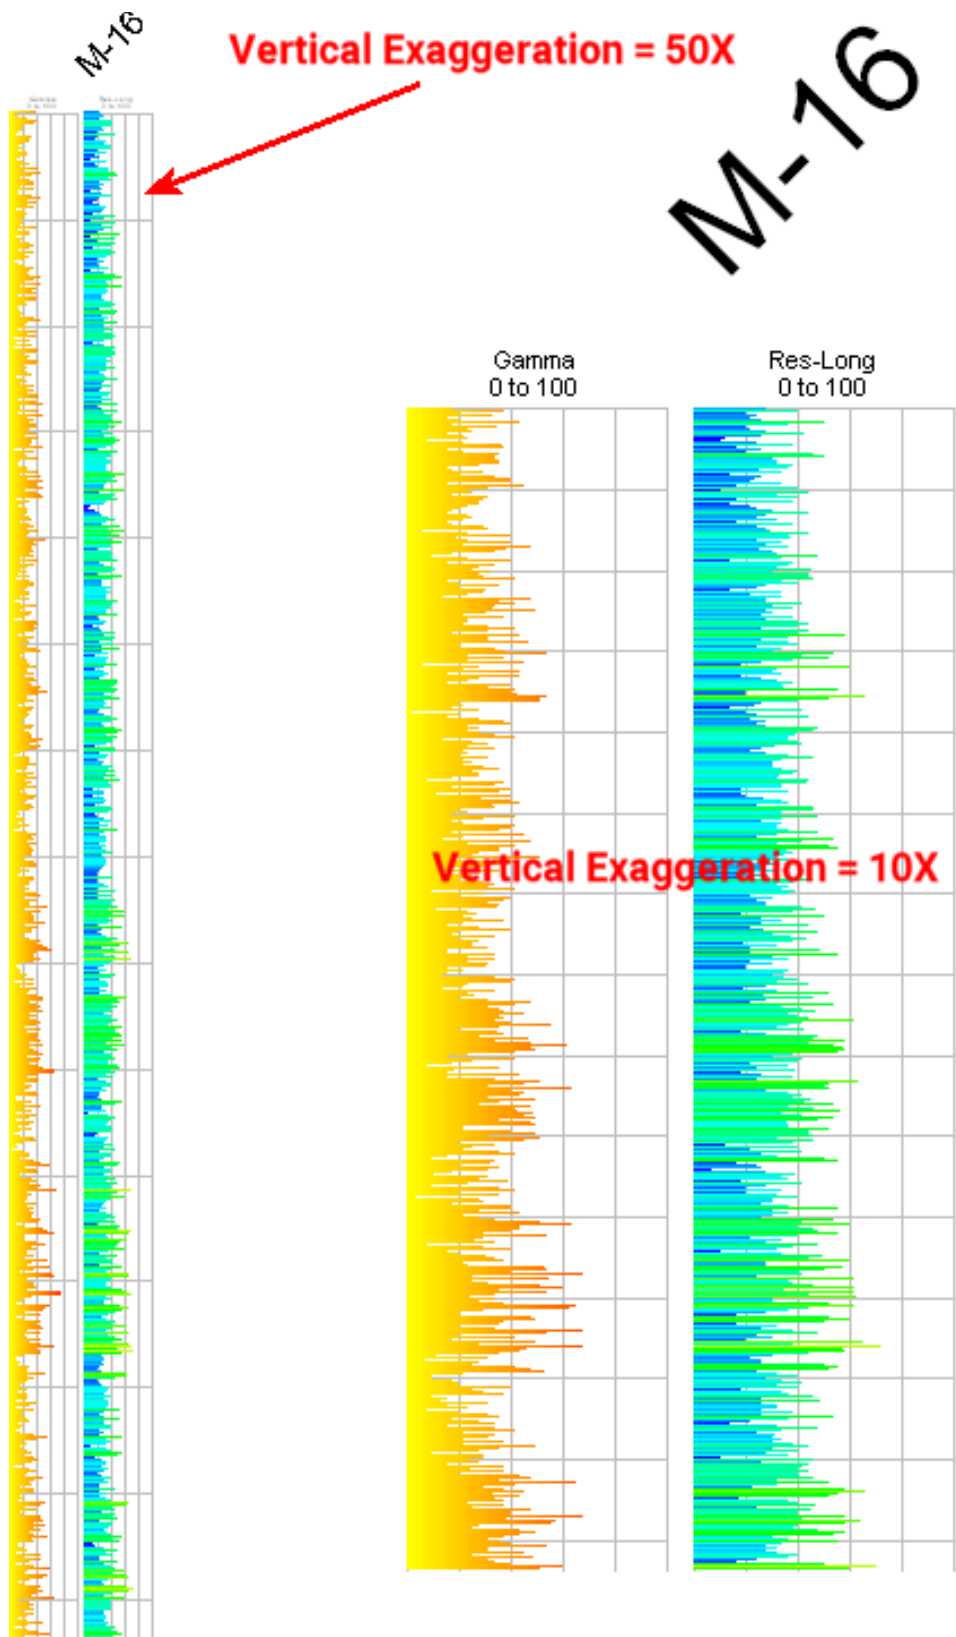

Figure 3
- The settings that are used for cross-section logs that minimize overlap but allow for discrimination of details may, however, not be suitable for plotting individual striplogs (Figure 3). For example, depth bars are redundant within cross-sections and the e-log columns are very thin. Decreasing the vertical exaggeration will “fatten” the diagram so that the e-log columns are wider but there are other considerations such as adding depth bars and lithology which may be otherwise unnecessary or not-desired within cross-sections.